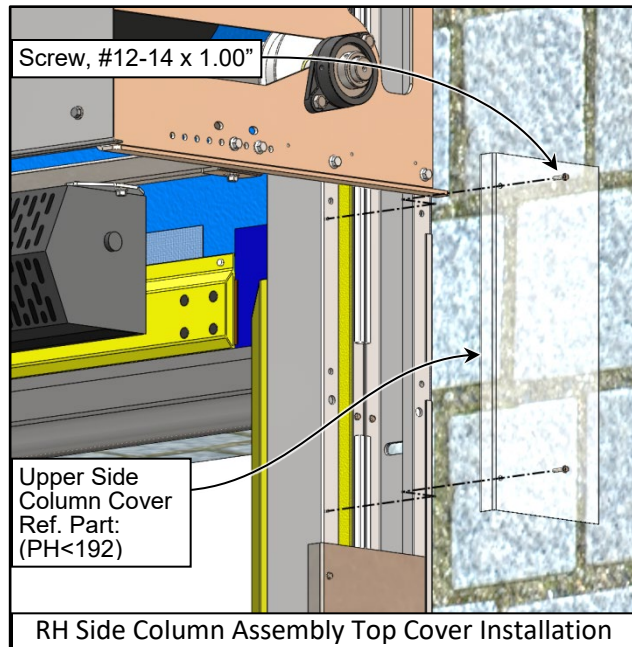
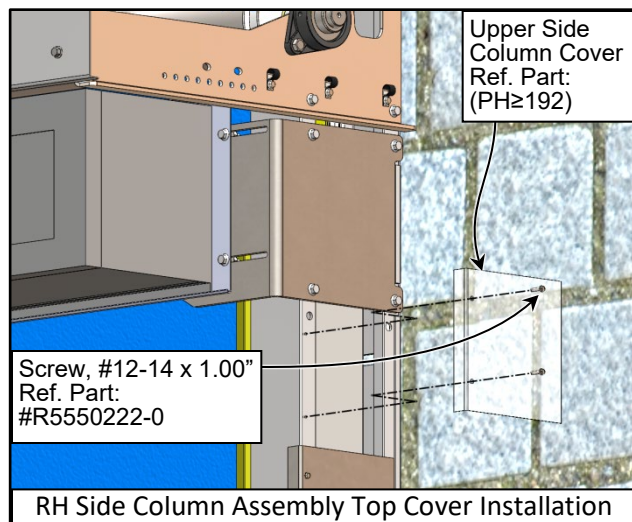

Figure 51
Figure 52
3. Mount the covers on each Side Column as shown. (See Figure 51 & Figure 52)